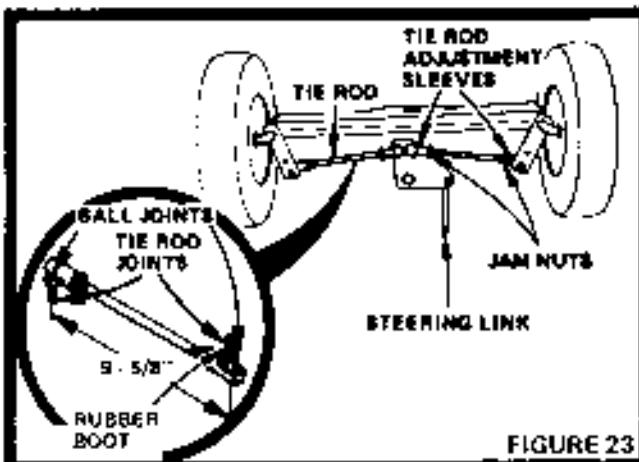

FIGURE 23
- Move Rubber Boots to expose Ball Joints on Tie Rods and Steering Link (Fig. 23).
- a. Loosen Jam Nuts (Fig. 23) at each end of Tie Rod Adjustment Sleeves.
- b. Adjust both Tie Rods so that Tie Rod Joints measure 9-5/8" from center to center (Fig. 23).